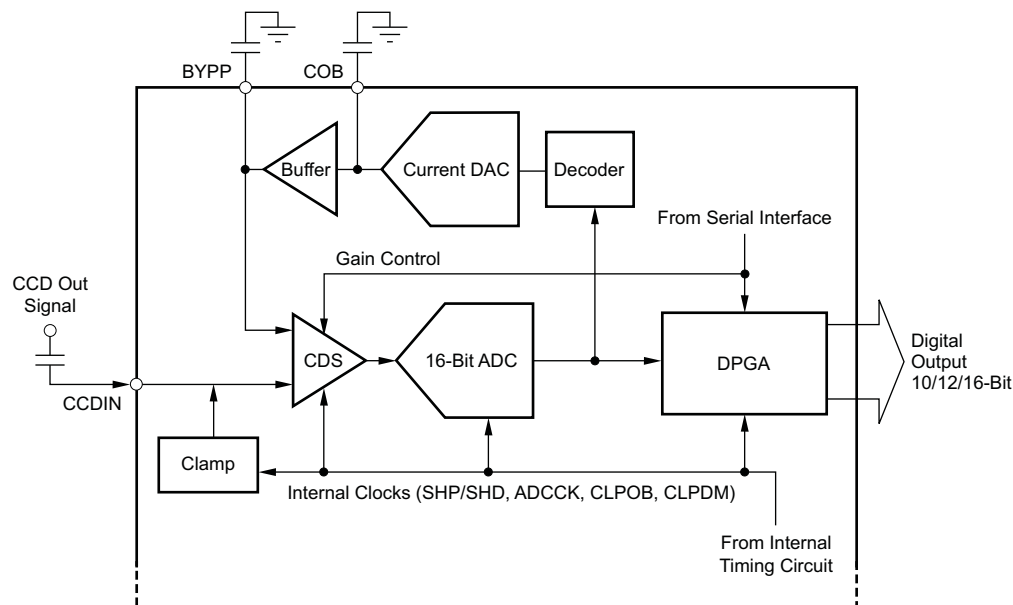

Figure 3. Simplified Block Diagram
The VSP2560/62/66 are a family of complete mixed-signal ICs that contain all of the key features associated with the processing of the charge-coupled device (CCD) imager output signal in a video camera, digital still camera, security camera, or other similar applications. Figure 3 shows a simplified block diagram of the VSP2560/62/66. The VSP2560/62/66 include a correlated double sampler (CDS), a programmable gain amplifier (PGA), an analog-to-digital converter (ADC), an input clamp, an optical black (OB) level clamp loop, a serial interface, timing control, and a reference voltage generator. It is recommended that an off-chip emitter follower be placed between the CCD output and the VSP2560/62/66 CCDIN input. All of the functions and parameters (such as PGA gain control, operation mode, and other settings) can be changed through the serial interface. All parameters are reset to the default value when the RESET pin goes to low asynchronously from the clocks.